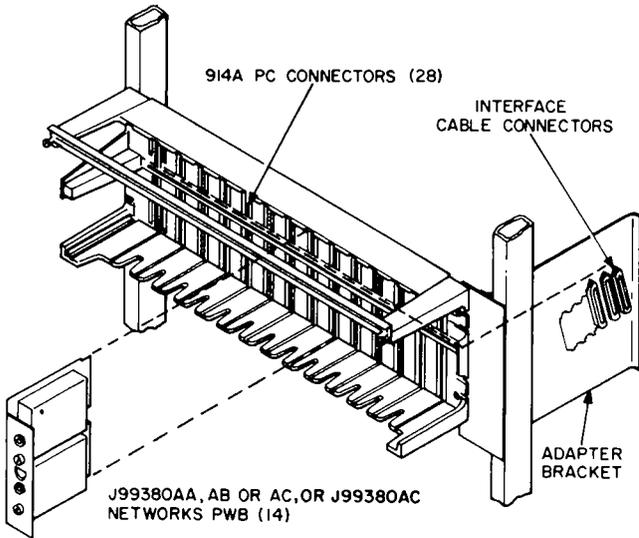
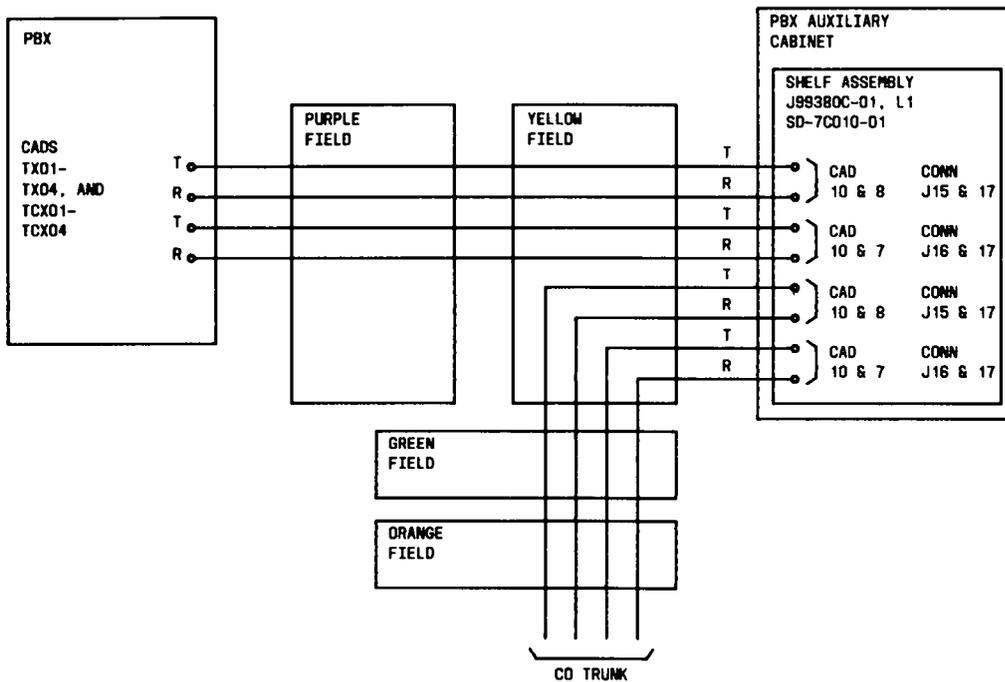

Fig. 19—Shelf Assembly for 837-Type Networks on PC Boards (J99380C)
Fig. 20—KTU-Type Shelf Assembly for Impedance Matching Network (J99380C)
**4.45** The shelf assembly for 837-type networks on printed circuit (PC) boards is shown on Fig. 19. Interconnection information for the Key Telephone Unit (KTU) shelf assembly for terminal balancing is shown in Fig. 20.